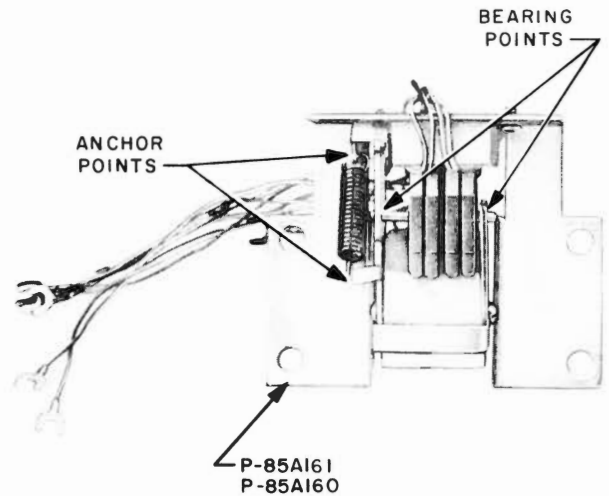

Fig. 3- Operating Bracket Switchhook Assembly, 750-Type Telephone Set
2.02 Switchhook bracket assembly -- The operating bracket shall operate without binding or squeaking throughout its entire travel. Squeaking may be eliminated by cleaning the spring anchor points and shaft bearing points with KS-7860 petroleum spirits. After cleaning, lubricate with a No. 2 or softer graphite pencil (Fig. 3 and 4).